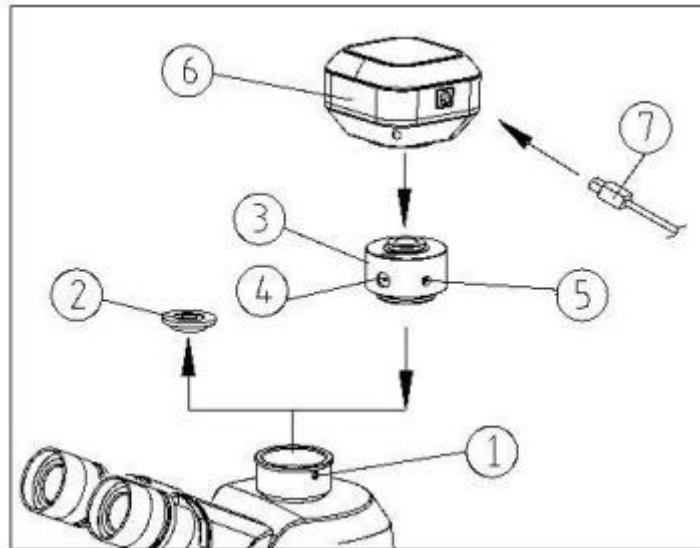

Figure 9
1. Loosen the lock screw (①) of the trinocular head and remove the triplet dust cover (②).
2. Remove the dust cover of the TV adapter (③). First, screw the external camera (⑥) into the camera (③), then install the camera into the three-way interface in the direction shown in the figure, and secure it by tightening the lock screw (①). (See Fig. 9)
3. Insert the USB cable (⑦) into the USB interface of the external camera (⑥) and connect the other end to a USB interface on a PC that complies with 3C and UL safety certifications.
4. For binocular observation, once the image is clear, view the output video through the corresponding video capture and analysis software. If the image is unclear, rotate the focusing system (④) until the image is clear. Then, tighten the lock screw (⑤) to lock the clear image.